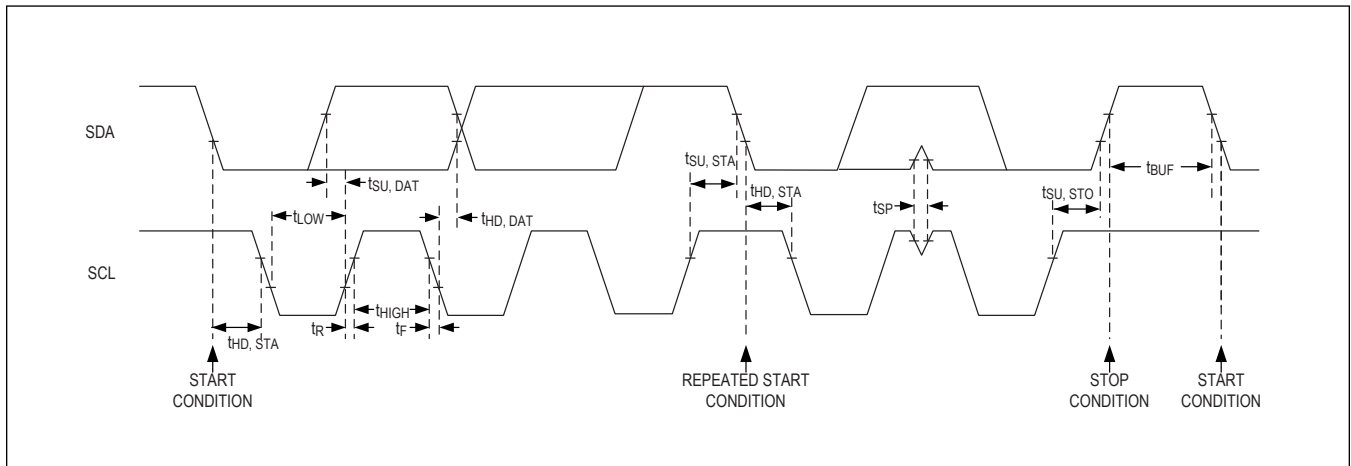

Figure 22. Detailed I2C Timing Diagram
The I2C interface on the MAX30009 is an I2C-/SMBus-compatible, two-wire serial interface consisting of an SDA and a SCL. In the I2C mode, the SDI/SDA pin operates as SDA and the SCLK/SCL pin operates as SCL. These two pins are used for the communication between the MAX30009 and the master at clock rates up to 400kHz. Figure 22 shows the two-wire interface timing diagram. The master generates SCL and initiates data transfer on the bus. The master device writes data to the MAX30009 by transmitting the proper slave address, followed by the register address, and then the data word. Each transmit sequence is framed by a START (S) or REPEATED START (Sr) condition, and a STOP (P) condition. Each word transmitted to the MAX30009 is 8-bits long and is followed by an acknowledge clock pulse. A master reading data from the MAX30009 transmits the proper slave address, followed by a series of nine SCL pulses. The MAX30009 transmits data on SDA in sync with the master-generated SCL pulses. The master acknowledges receipt of each byte of data. Each read sequence is framed by a START (S) or REPEATED START (Sr) condition, a not acknowledge (NACK), and a STOP (P) condition. SDA operates as both an input and open-drain output. A pullup resistor is required on SDA. SCL operates only as an input. A pullup resistor is required on SCL if there are multiple masters on the bus, or if the single master has an open-drain SCL output. Series resistors in line with SDA and SCL are optional. Series resistors protect the digital inputs from high-voltage spikes on the bus lines, and minimize crosstalk and undershoot of the bus signals.